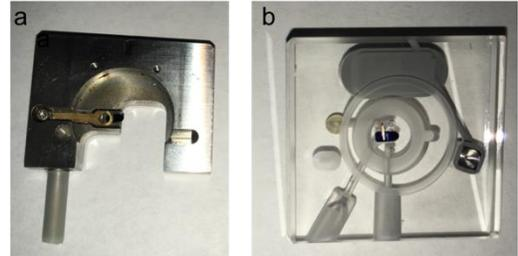

Figure 4. Tip holder assemblies for (a) solid-state and (b) solution-state imaging.
- Remove tip/probe holder assembly (part 8) from instrument by unscrewing knob (part 15) on back-center of AFM head, and place on a table with the tip facing up (Figure 4).